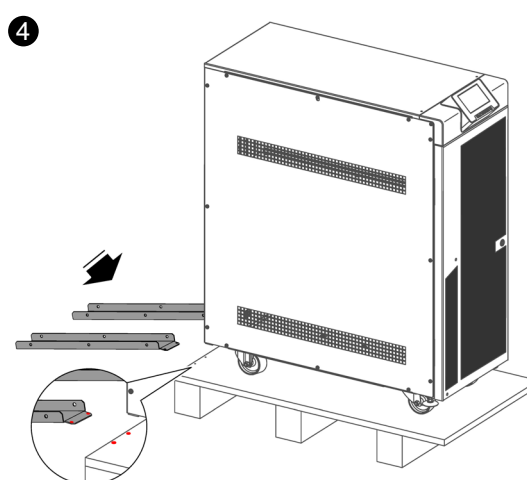

Fig. 25. Mounting the guides on the pallet.
- ④ Assemble the guides on the pallet as shown in Fig. 25.